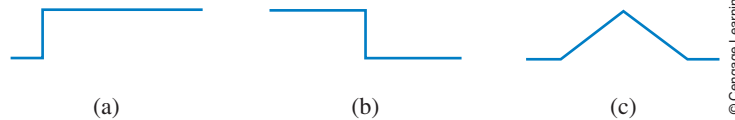

FIGURE 13-7
- Which of the current graphs shown in Figure 13-7 cannot be the current in an inductor? Why?